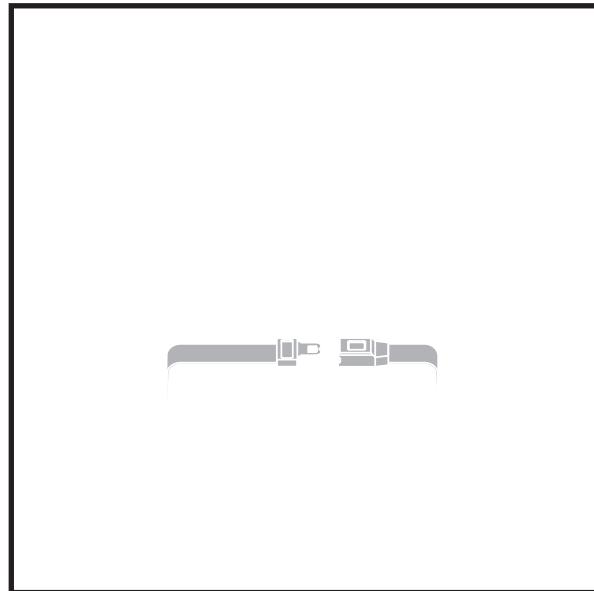

Figure 13. Positioning Belt Adjustment
1. Once seated, insert the metal tab on one side of the belt into the plastic housing on the opposite side until you hear a click. See **figure 13**.